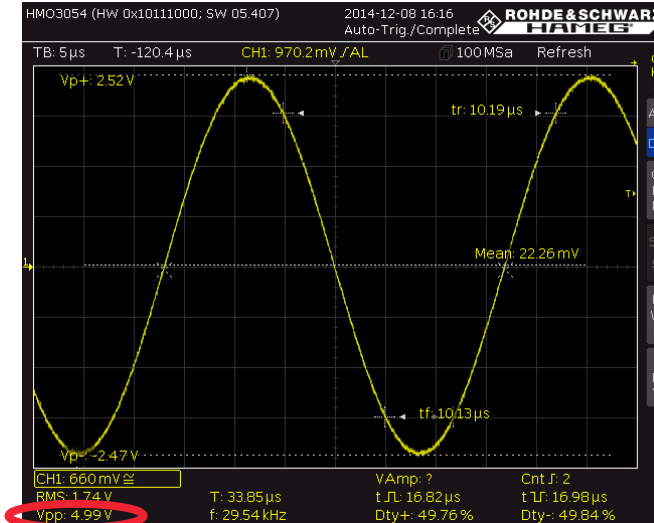

Fig. 2-40: Adjusted amplitude of U_{in} at the cutoff frequency.
- The higher frequency changes the matching conditions between the signal generator and the DUT, which in turn affects the input voltage. To correctly measure the cutoff frequency, the input voltage must therefore be adjusted on the HMF2550 to the voltage value measured at $f=500$ Hz (Fig. 2-40).